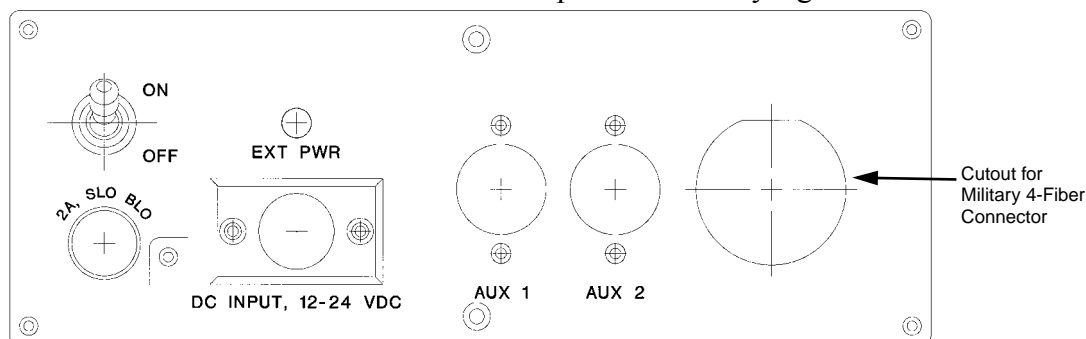
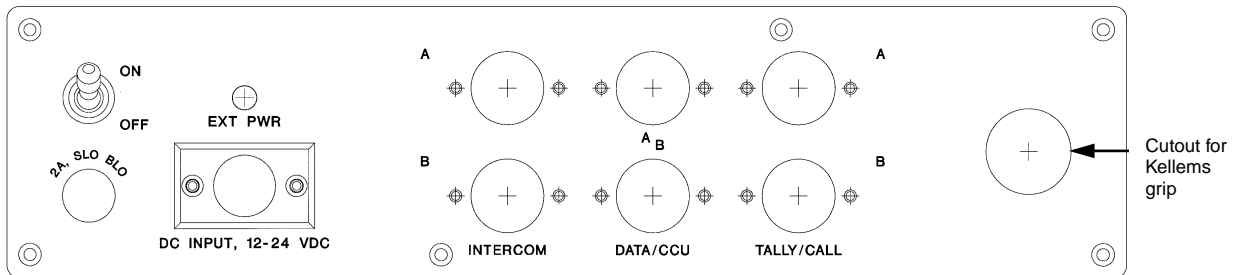
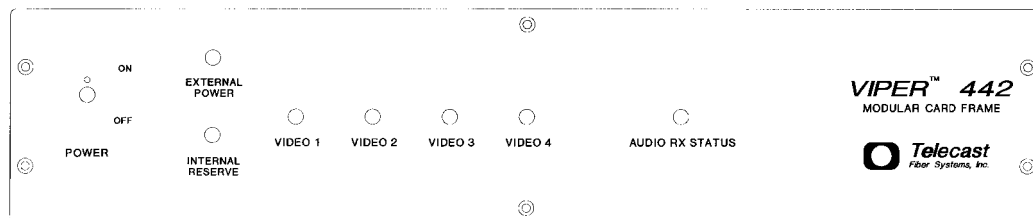

Figure 8. VIM4 Front Panel
Figure 10. VIM8 Front Panel
Figure 12. 442 Front Panel
The front and rear panels for TX and RX units are identical, except for the name of Transmitter or Receiver, and the use of male connectors on the receivers and female connectors on the transmitters. Refer to Figures 8 through 11 when making connections to the portable units, and to Figures 12 through 16 when making connections to the rack mount units.
The VIM4 front panel shown in Figure 8 supports the following:
- Military 4-fiber connector (Figure 8) or Kellems™ grip (Figure 10).
The VIM8 front panel shown in Figure 10 supports the following:
- Kellems grip opening (Figure 10) or military fiber connector with 4 fibers (Figure 8).
The 442 front panel shown in Figure 12 supports the following: